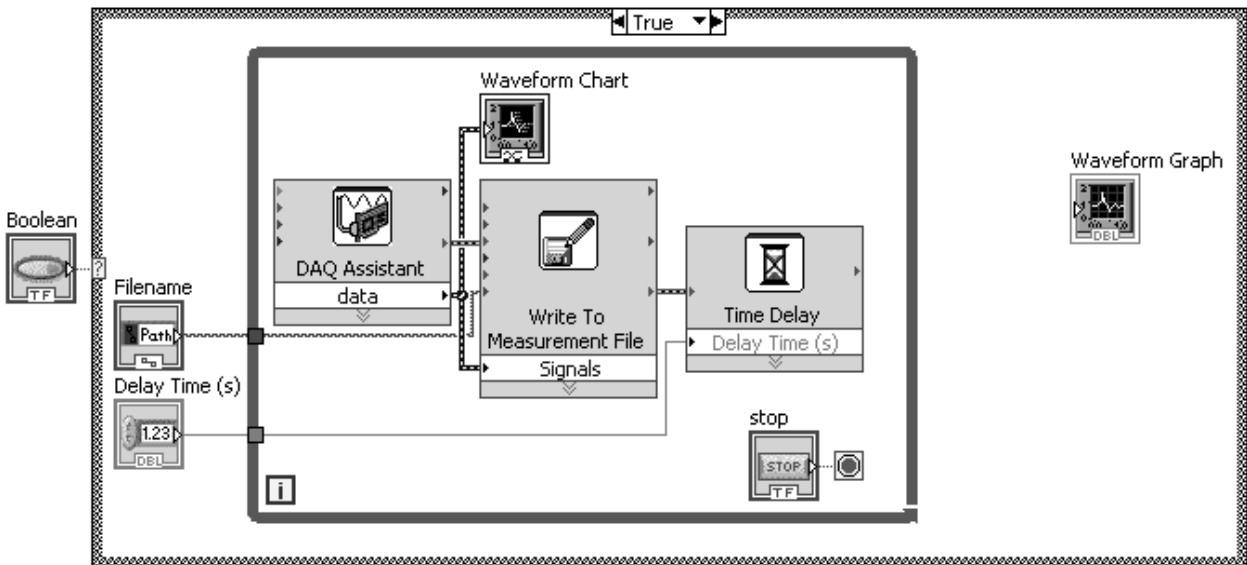

Figure 1.4.15 Example VI to continuously measure analog input data showing wiring
29. Wire terminals together as shown in Fig. 1.4.15. Wire the data output terminal from the DAQ Assistant to the waveform chart and the signals input terminal of the “Write to Measurement File” Express VI. Notice that the waveform chart changes to the dynamic data type when the wire is connected. You can start wiring from a wire that already connects two terminals.
- 30.** Wire the error input and output terminals between the Express VIs as shown in Fig. 1.4.15.